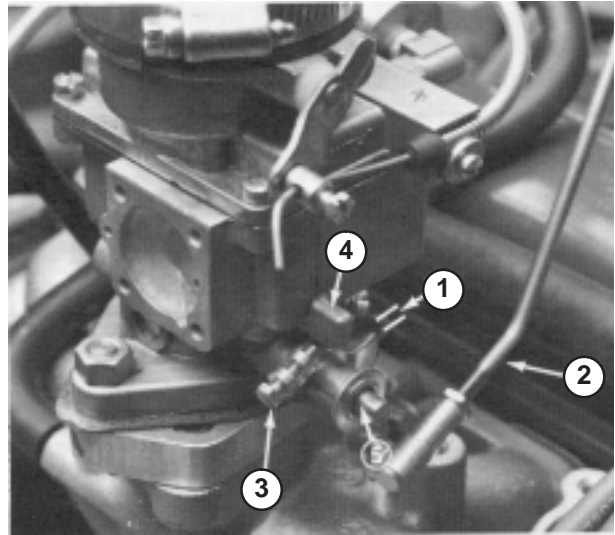

Figure 33
1. With engine shut off, move throttle control to FAST position and open hood. Check between the throttle arm and the stop on the carburetor base to make sure there is 1/32" (0.8 mm) gap (Fig. 33). If gap is not correct, adjust throttle rod (Fig. 33) by turning ball joint ends until gap is 1/32" (0.8 mm). If gap is correct, proceed to step 2.
3. Rotate throttle arm closed until it contacts stop (Fig. 33).
5. Release throttle arm, loosen jam nut on governor low idle speed screw and adjust it to attain 1500 ± 100 rpm (Fig. 33).